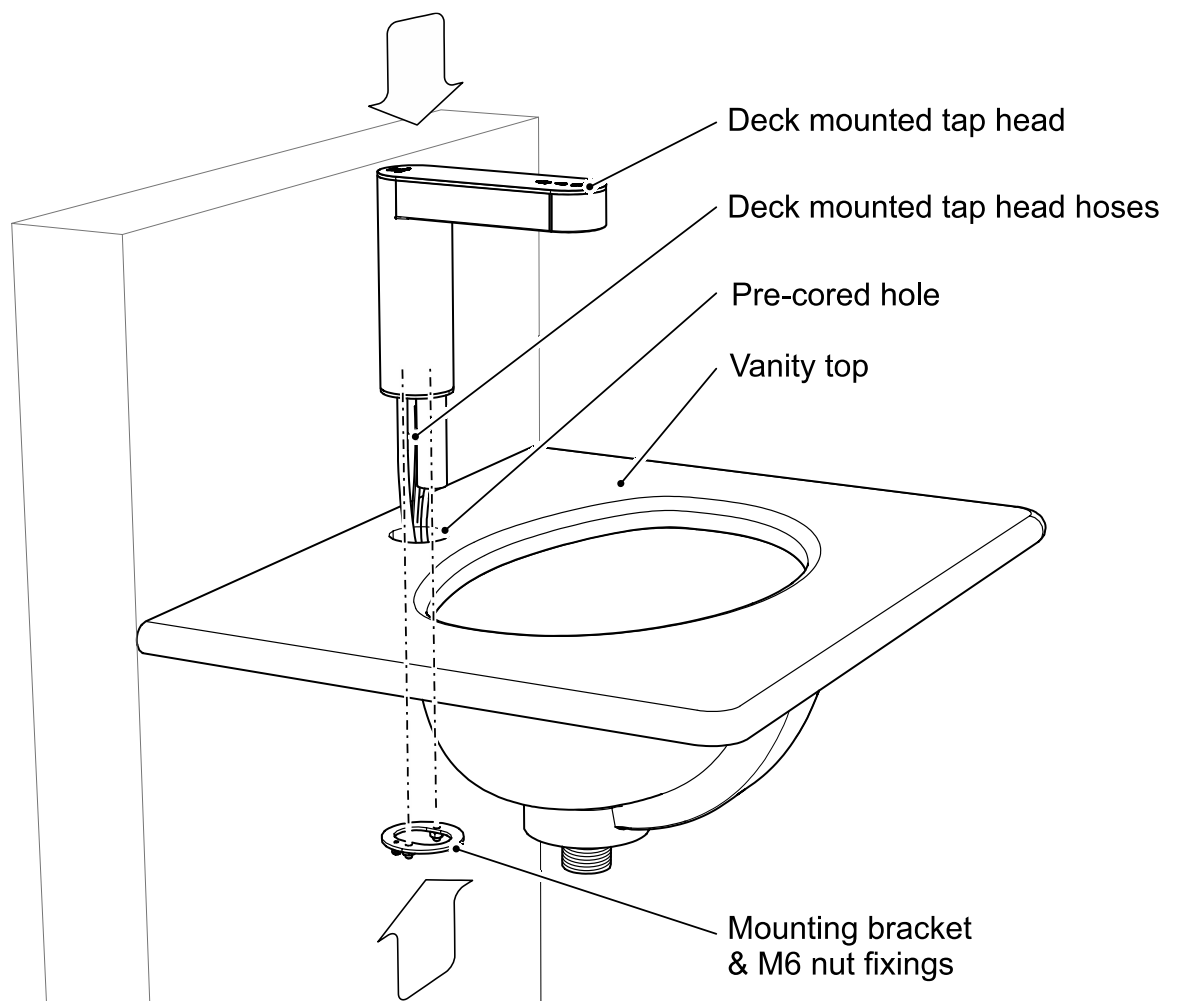

Figure 7: Tap head installation into vanity top or basin.
2. Carefully pass tap head hoses through hole made in basin or vanity before seating washer and tap onto deck as shown in figure 7.